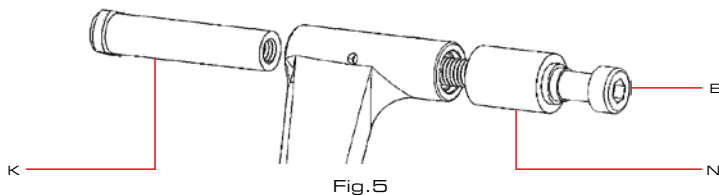

Fig.5
3. To remove the Equilink Needle Bearings you must first remove the Grease Needle Fittings. This can be done by gently pulling them out with a set of good quality pliers. Discard the fittings you just removed. There is a new set of grease fittings included with your rebuild kit. After the grease fittings are removed, orient the tools as shown in Fig. 5. Tighten the bolt until both bearings inside each (top and bottom) barrel of the Equilink are pressed into the bearing receiver (N).